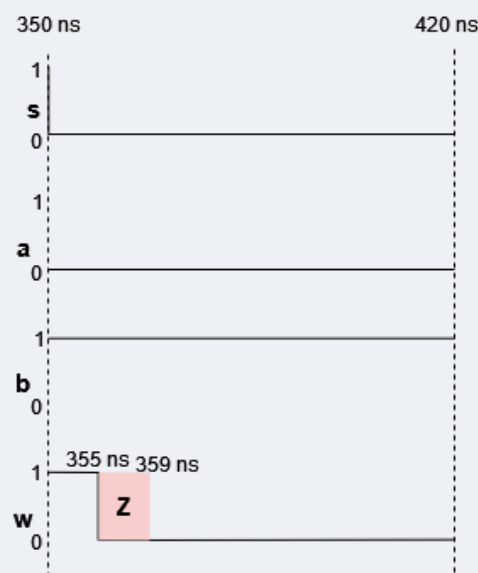

Figure 2.6
- **350 to 420 ns:** After changing the value of “s” to 0, in 5 ns T4 will propagate Z and in this time the value of point “n” will be 1 (it takes 5 ns for T1 to propagate 1 and T2 to propagate Z). Then there will be a 4 ns gap till T3 propagates 0 to the output. (fig. 2.6)